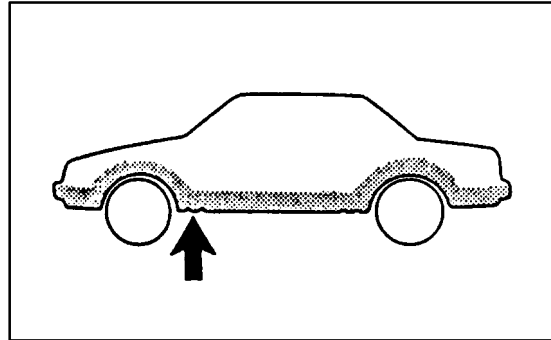

fig. 2
- I. Jack up the vehicle and support the body at the point shown in fig. 2.